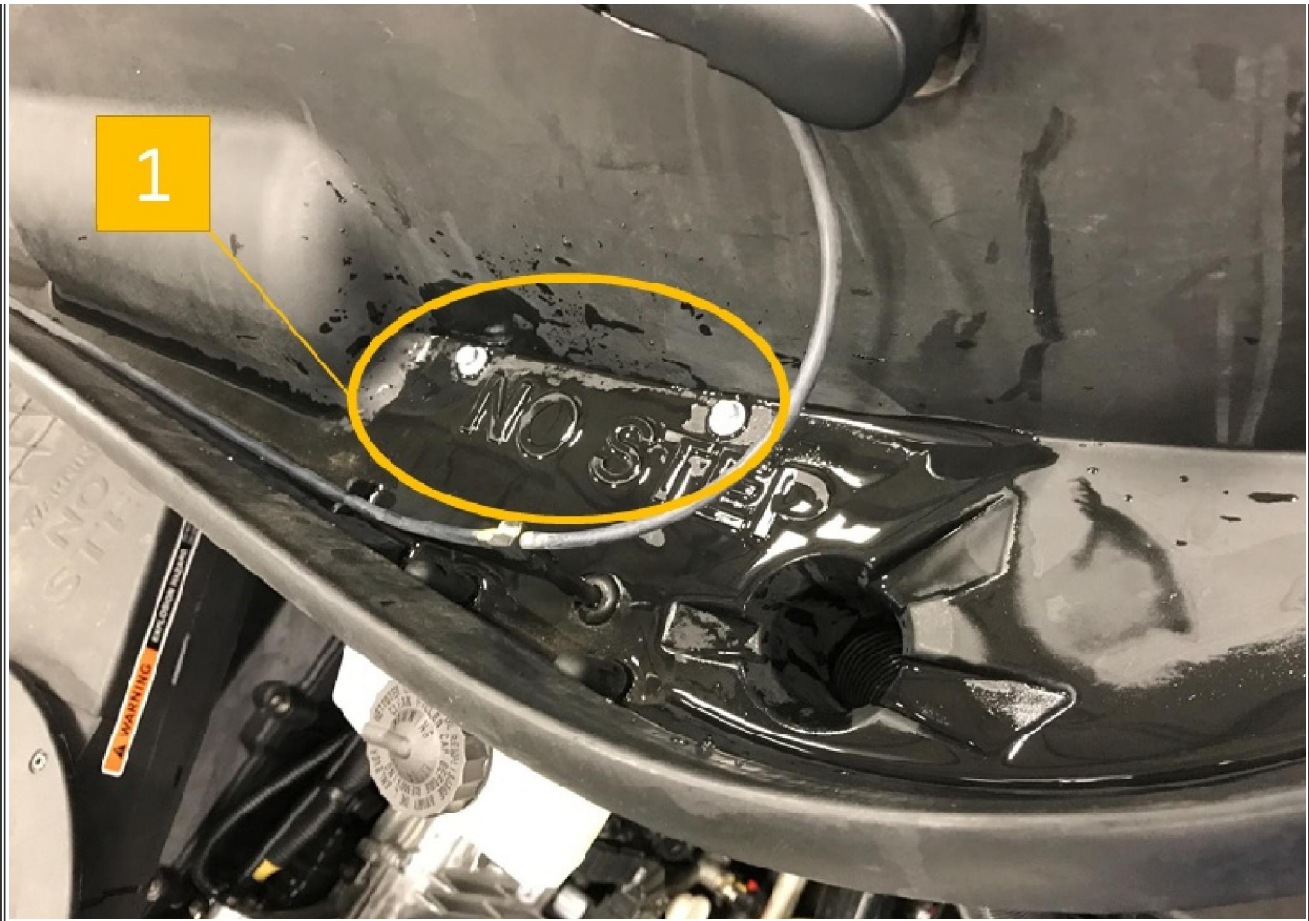

Figure 3. Top View of Cowl Tray
2. Drill 2 holes in the approximate location (Figure 3, Item 1) in the cowl tray using a 1/4" drill bit.